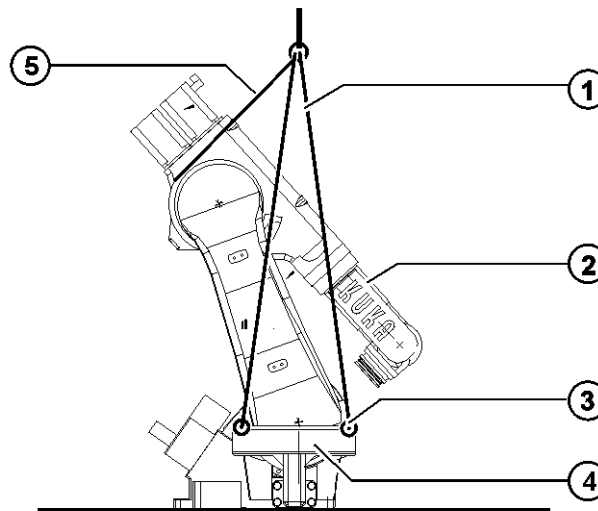

Fig. 7-4: Lifting tackle
The robot (>>> Fig. 7-4) (2) can be transported using lifting tackle (1). The robot must be in the transport position. The lifting tackle is attached with hooks (3) to the fork slots (4) screwed to the rotating column. All ropes must be long enough and must be routed in such a way that the robot is not damaged. Additional securing measures (5) can be used to prevent the robot from toppling during transportation. Installed tools and pieces of equipment can cause undesirable shifts in the center of gravity, which must be taken into account during transportation.